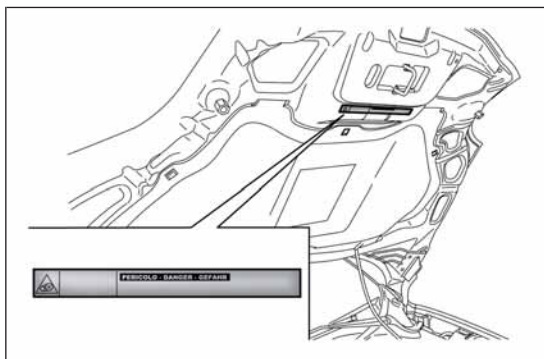

fig. 84
**Before opening the bonnet, make sure the engine is off and the ignition key is in the STOP position. Follow the indications on the plate underneath the bonnet fig. 84. It is advisable to extract the key when there are other people in the car. Leave the car only after having removed the ignition key or having turned it to STOP. During refuelling, make sure that the engine is off and that the ignition key is in the STOP position.**